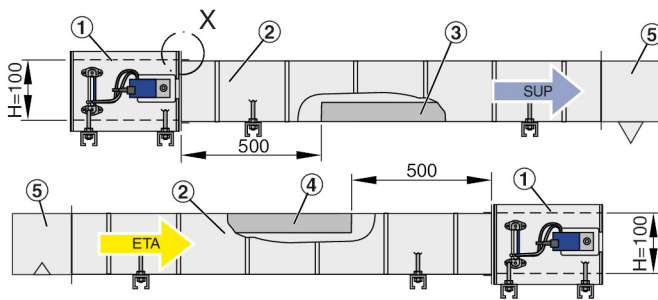

Fig. 26: Installation of sound attenuator TX H = 100 mm
- Secondary silencer TX can be installed directly upstream/downstream of the volume flow controller, non-active section to the volume flow controller, Fig. 26.